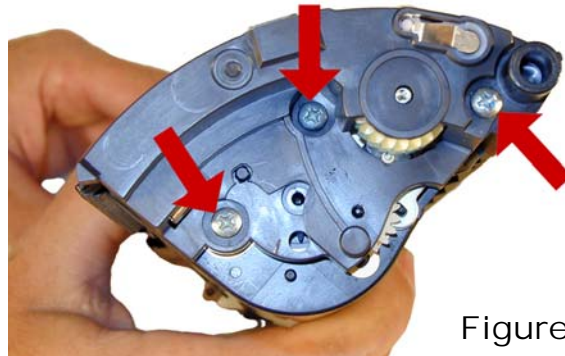

Figure 5
2) On the gear side of the cartridge, remove the three silver screws from the end cap. See **Figure 5**